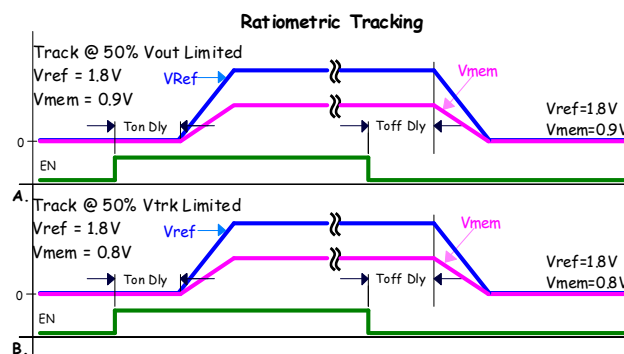

FIGURE 21. RATIO-METRIC TRACKING
- a. Track at 50% V_{OUT} limited. Member rail tracks the reference rail and stops when the member reaches 50% of the target voltage, Figure 21 (A).
- b. Track at 50% VTRK limited. Member rail tracks the reference at the instantaneous voltage value applied to the VTRK pin until the member rail reaches 50% of the reference rail voltage, or if the member is configured to less than 50% of the reference the member will achieve its configured target, Figure 21 (B).
Tracking Configuration Figure 21 (A)
Tracking Configuration Figure 21 (B)